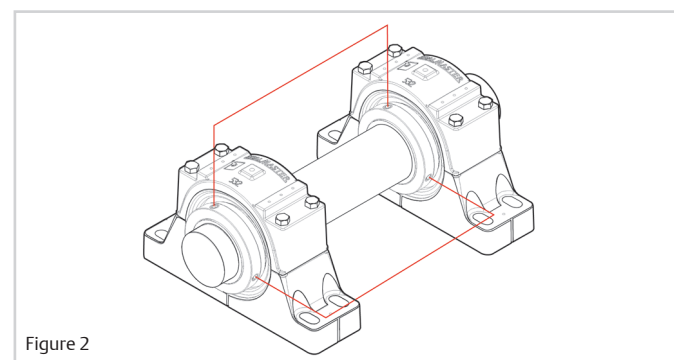

Figure 2
- Setscrews in multiple bearing applications should be aligned as seen in Figure 2 above. Setscrews that are not properly aligned can induce shaft misalignment between two bearings.